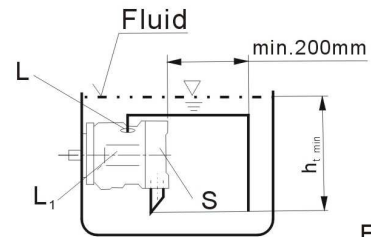

Fig. 3
a) If the minimum fluid level is above the top of the pump, port "L1" closed, "L" and "S" should remain open, L piped and recommendation S piped (see Fig. 3)